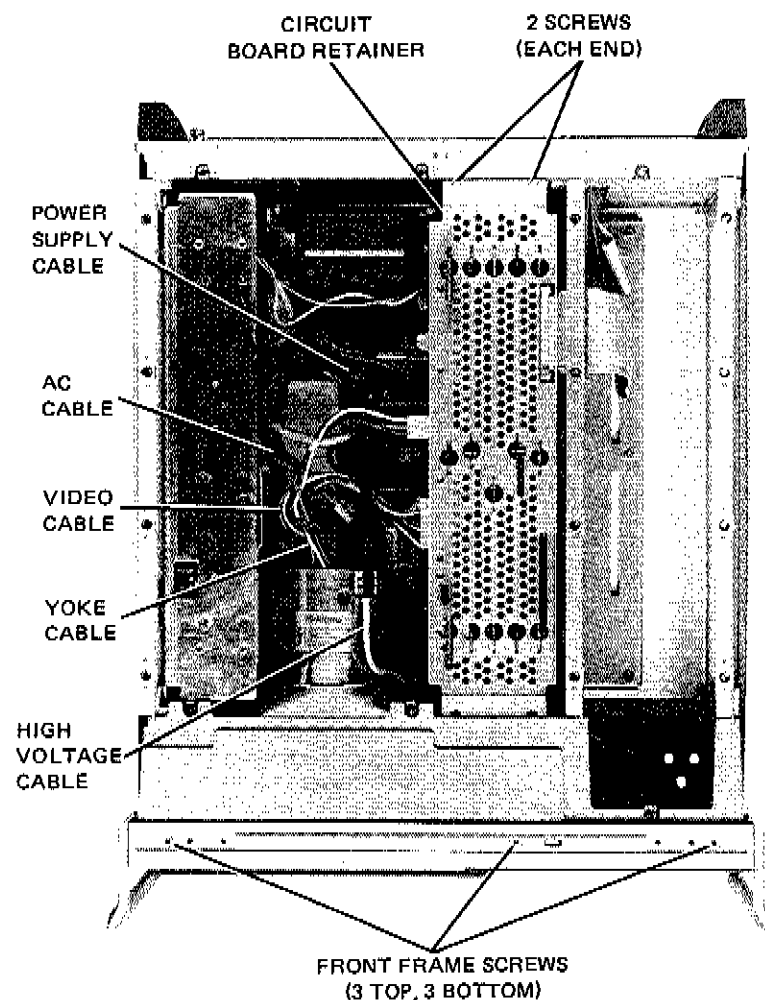

Figure 2. Assembly Location
2. Remove circuit board retainer. See Figure 2
2. Remove the front-top trim strip exposing the front frame retaining screws. Remove the six retaining screws, three top and three bottom. Refer to Figure 2.
3. Using the pry slots (Figure 2), pry the front frame from the instrument housing.
5. Disconnect the following cables (refer to Figure 2):